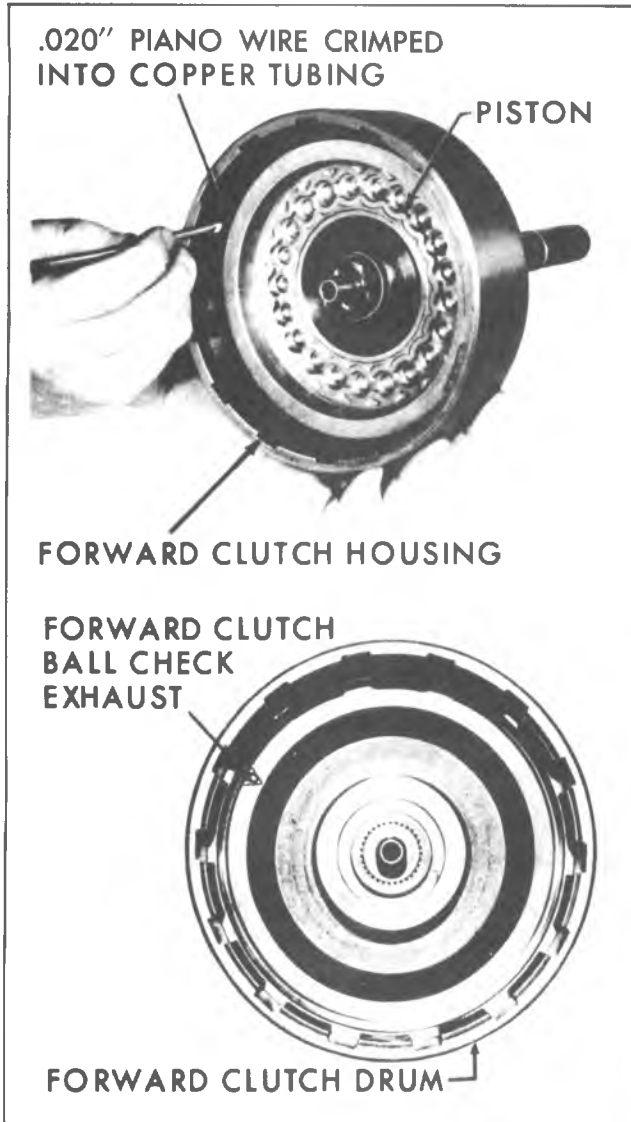

Fig. 7A-86B--Forward Clutch Exhaust Check Ball Installing Piston
4. Inspect clutch housing for wear, scoring, open oil passages and free operation of exhaust check ball (fig. 7A-86B).